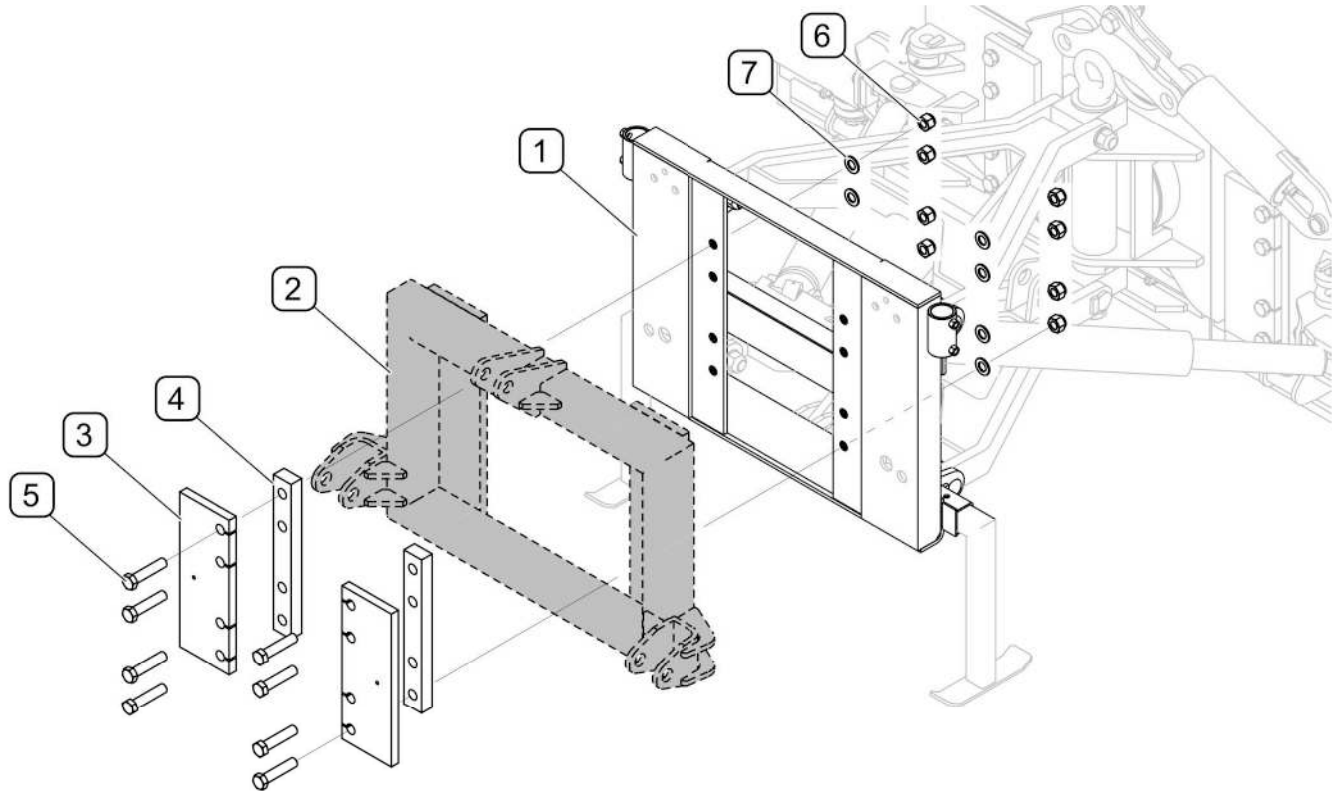

FIG. 4.15 Installation of swinging linkage systems
(1) - hitch; (2)- linkage; (3) - holding plate; (4) - cover plate; (5) - bolt M20x90-8.8; (6) - nut M20; (7) - washer 20-100HV
Swinging linkage systems (FIG. 4.15) are attached to the scraper-blade's hitch (1) using holding plates (3) and cover plates (4). List of mounting elements for linkage systems is shown in TAB. 4.8